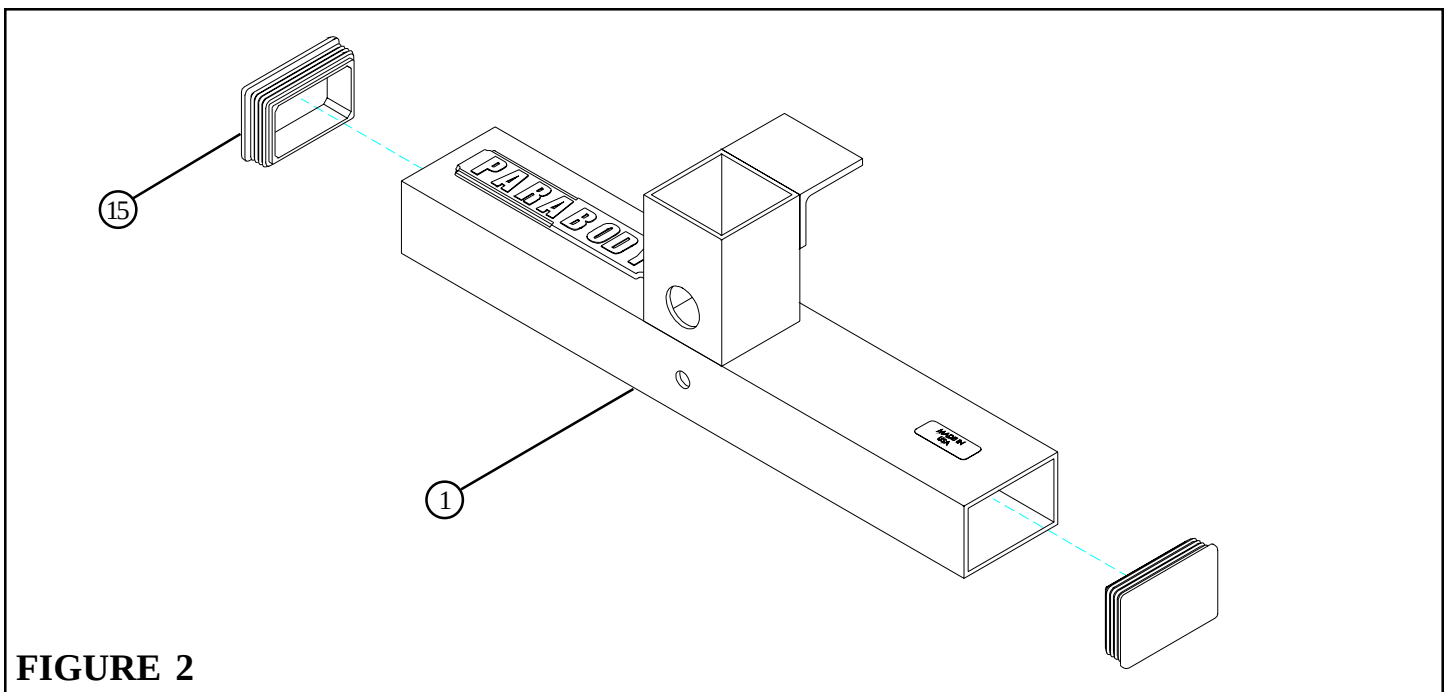

FIGURE 2
- Insert two 3 X 2" END CAP (15) into the ends of the BASE (1) as shown in FIGURE 2.